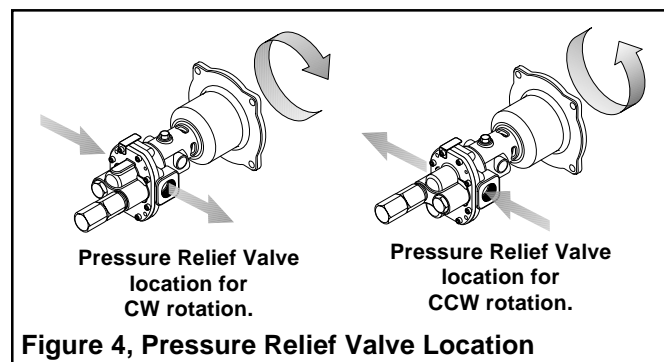

Figure 4, Pressure Relief Valve Location
2. After making all the electrical connections, jog the Motor momentarily to verify correct shaft rotation as shown in Figure 4.